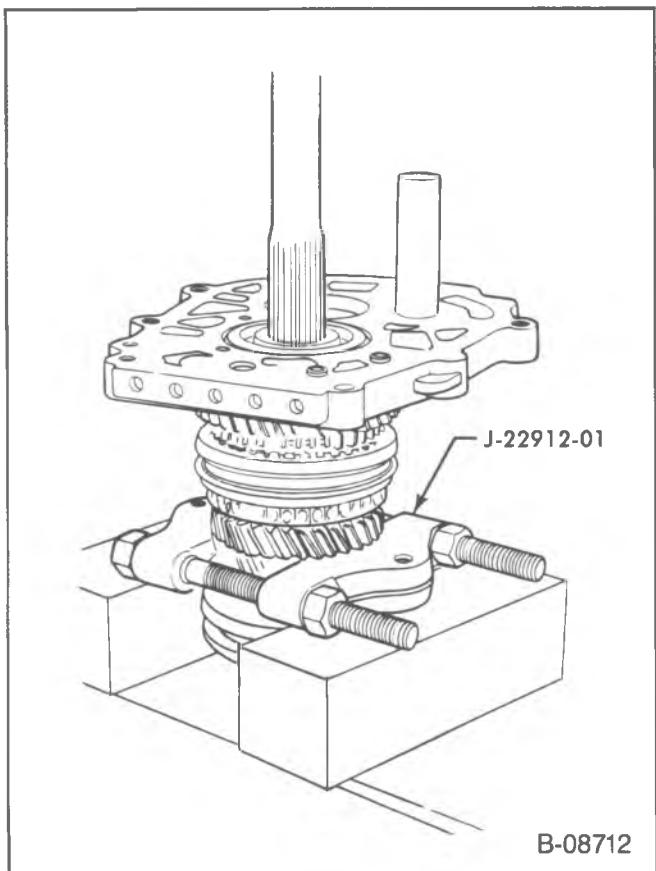

Figure 93—Removing the Mainshaft from the Center Support
1. Center support (522) and the rear bearing.
- Support the 2nd speed gear (571) in a press using J-22912-01, (figure 93).
- 2. Remove the 1st speed gear (575) and the thrust washer.
- 3. Remove the 1st speed blocker ring (574).
- 4. 1st and 2nd synchronizer (573).
- Press the mainshaft through the synchronizer, the 2nd speed blocker ring and the 2nd speed gear (571). Do not let the synchronizer come apart.